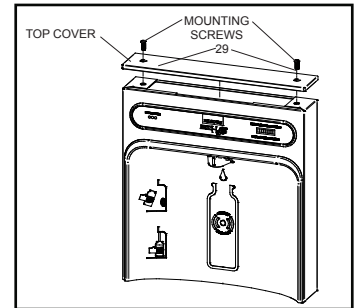
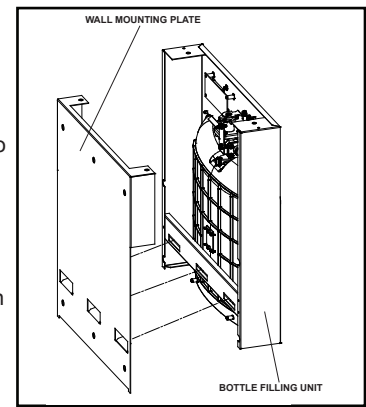

Figure 3
Figure 6
12. With the power cord, wire(s), and waterline through hole on top of water cooler place Bottle Filler on the three (3) angled tabs protruding from the wall mounting plate, installed on wall (See Fig. 6). Make sure round boss in gasket fits in hole of basin.
13. Once Bottle Filler is installed on wall plate tabs, water line, wire(s) and power cord are installed properly, push top of Bottle Filler toward wall and line up top cover two (2) holes.
14. Reinstall Top Cover on Bottle Filler (See Fig. 3) with two mounting screws from step 1 above. Caution: do not over tighten screws.